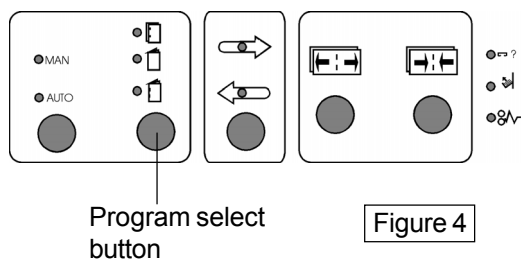

Figure 4
14. Start the dead cycle program on the Booklet Maker by holding in the Program select button and switching on the Main power switch, according to figure 4.